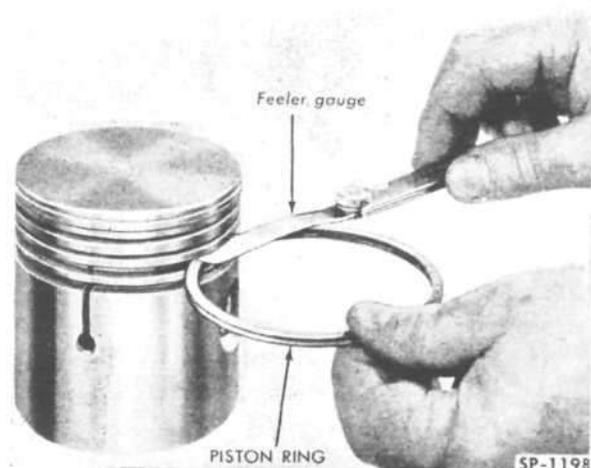

FIG. 42—CHECKING PISTON RING SIDE CLEARANCE
- g. Check width of piston ring grooves using a new piston ring and a feeler gauge as shown in Fig. 42.